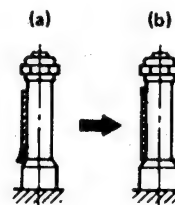

Fig. 1-4-7 No. 8 guide check
2. Adjust the ACE tilt adjusting screw until tape wrinkle is caused at the lower flange of No. 8 guide as shown in Fig. 1-4-7(a).
3. Turn the ACE tilt adjusting screw counterclockwise until the tape travels along the lower flange as shown in Fig. 1-4-7(b).